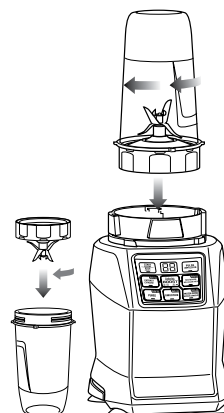

Fig. 1
- 4 Place the Pro Extractor Blades™ onto the cup and tightly screw it on clockwise until you have a good seal. **(Fig. 1)**